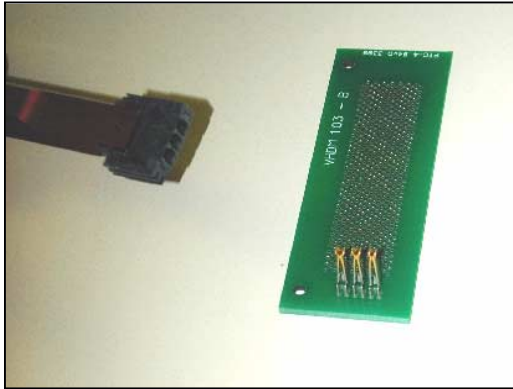

Figure 4
2. Make sure the insulator is oriented correctly. See Figure 4.